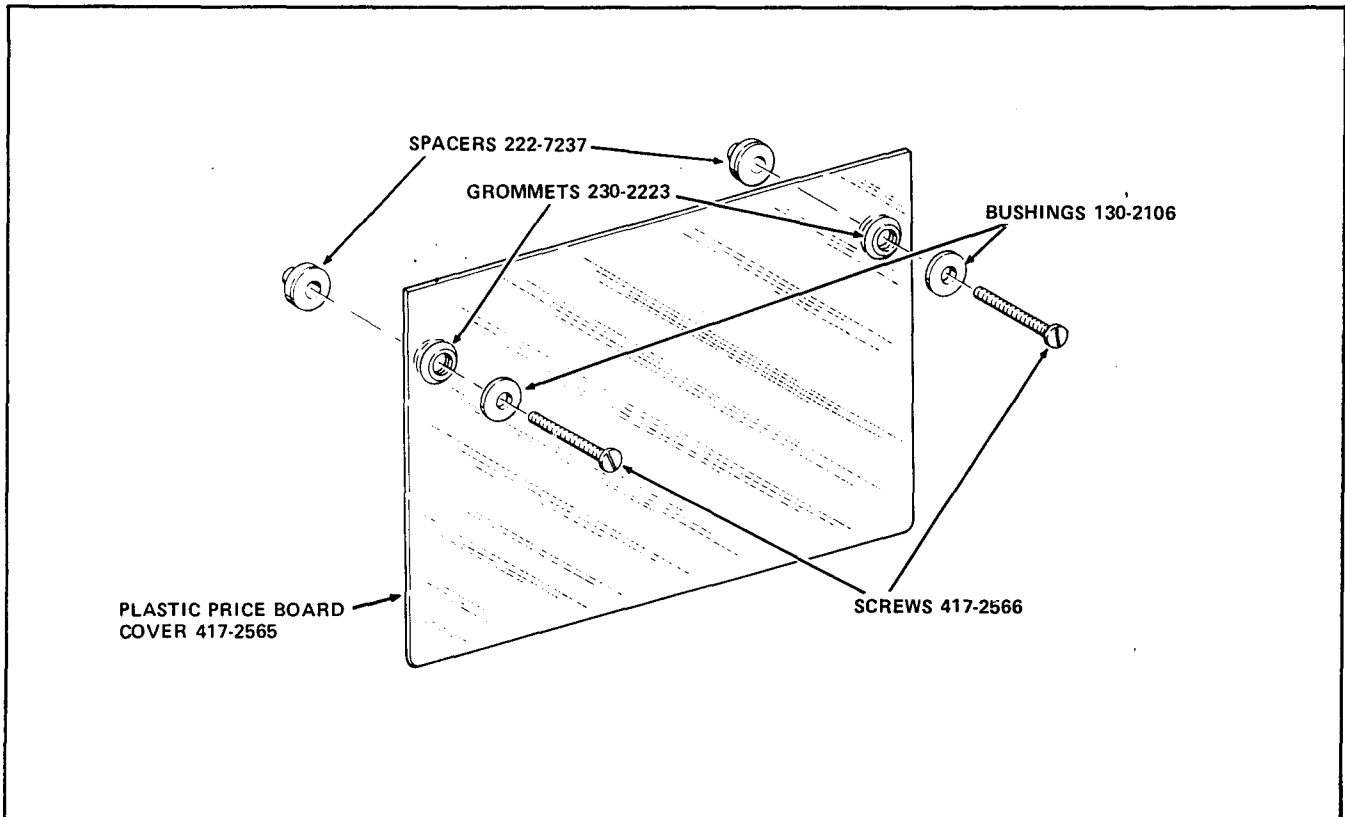

FIGURE 7
10. Assemble the Plastic Price Board Cover, part number 417-2565, the two Grommets, part number 230-2223, the two Spacers, part number 222-7237, the two Bushings, part number 130-2106, and two Screws, part number 417-2566, as shown in Figure 7. All parts are included in the kit.